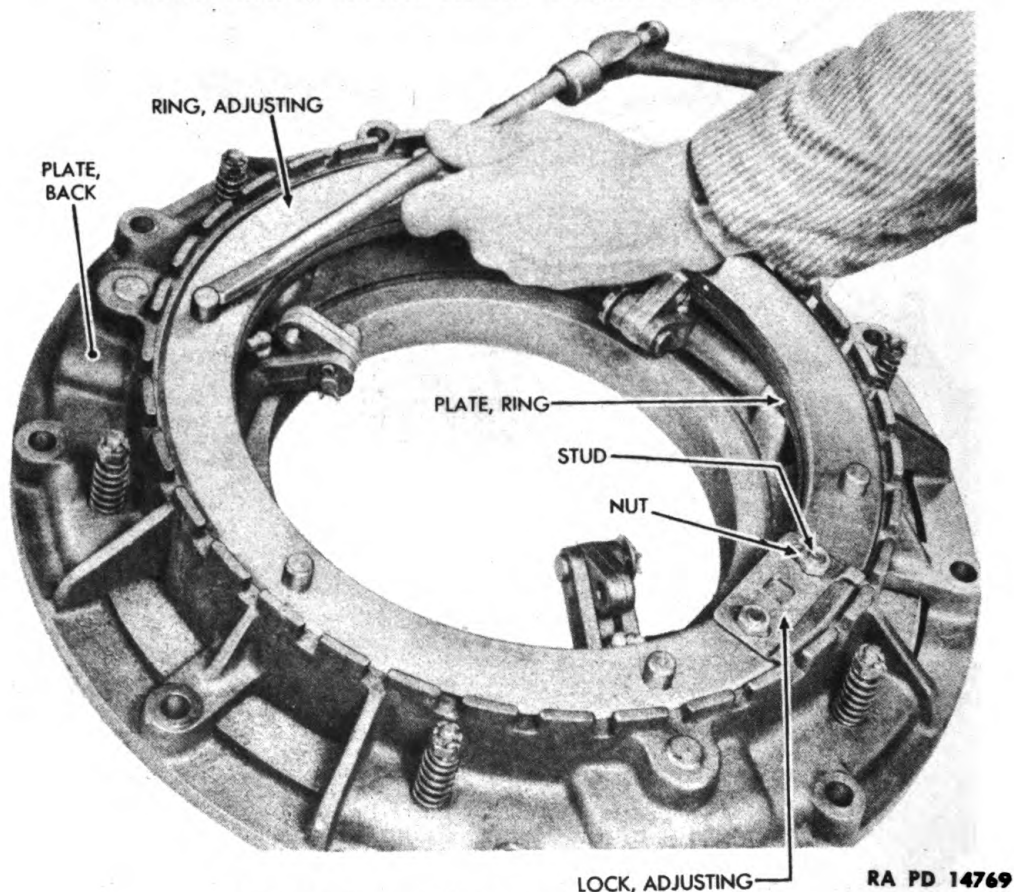

Figure 20 — Adjusting Ring Removal
(4) REMOVE ADJUSTING RING (fig. 20).
- (9) REMOVE ADJUSTING LOCK FROM ADJUSTING RING (fig. 20).